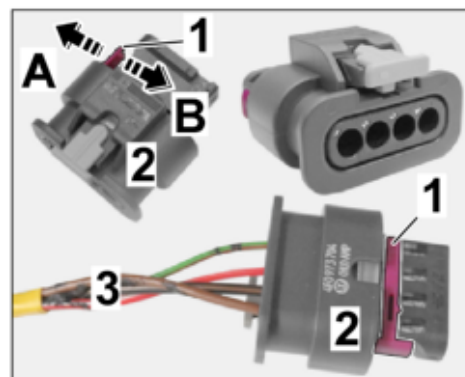

Figure 23
3.4.1 Release the socket housing (4-pin, see parts list). ⇒ Figure 23 -A-
- 3.4.3 Lock the socket housing (4-pin, see parts list). ⇒ *Figure 23 -B-*